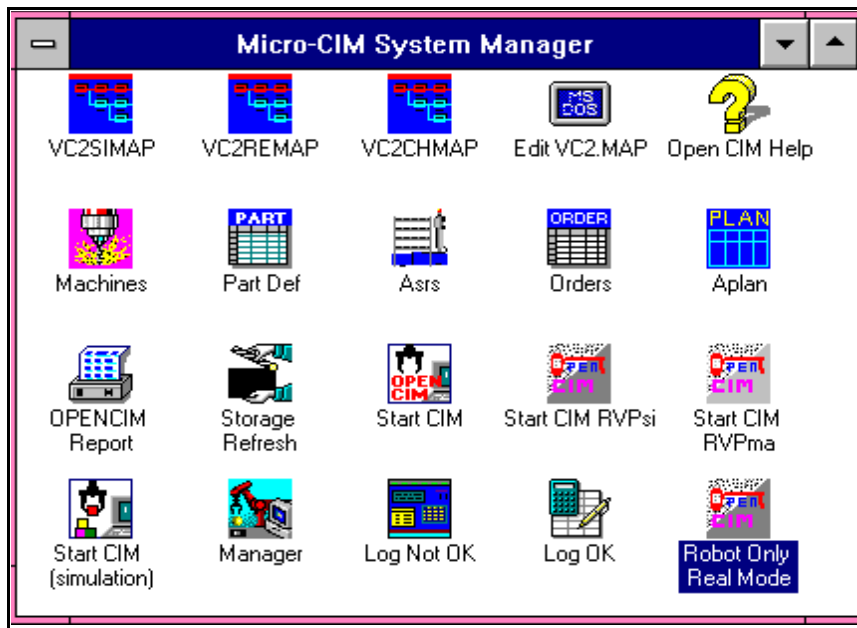

Figure 13: System Manager Group Window
1. Open the **System Station 1** group window. See Figure 13.